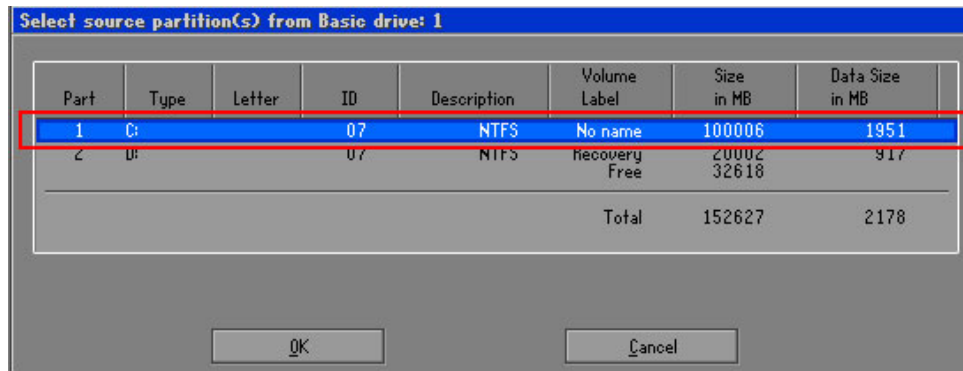

Figure C-15: Select a Source Partition from Basic Drive
Step 6: Select a source partition (Part 1) from basic drive as shown in **Figure C-15**.